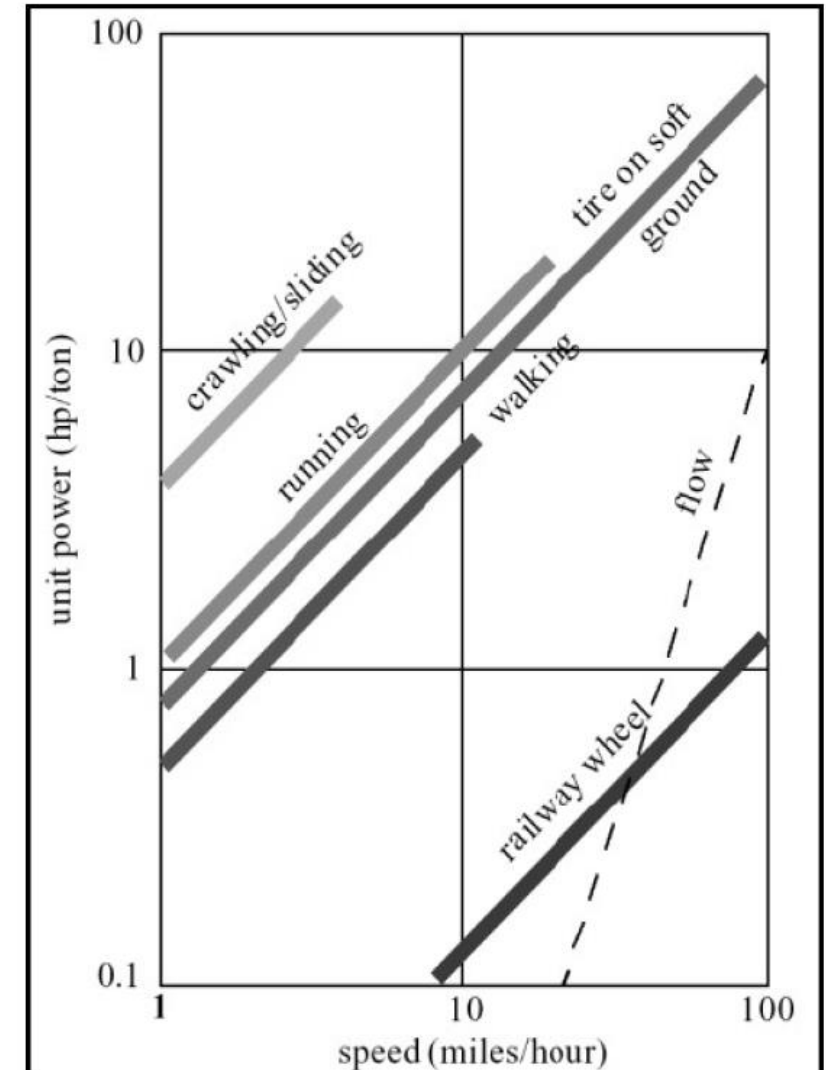

Fig. 5
- Frequent dynamic adjustments (see Fig. 5).